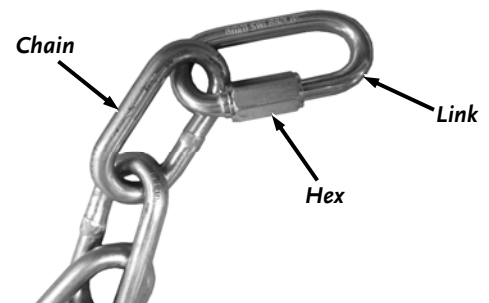

Figure 2
1. Hook a Link at the end of each Safety Chain and turn the hex portion to close it onto the Chain (**Figure 2**). Tighten the Link using a 10mm Wrench.